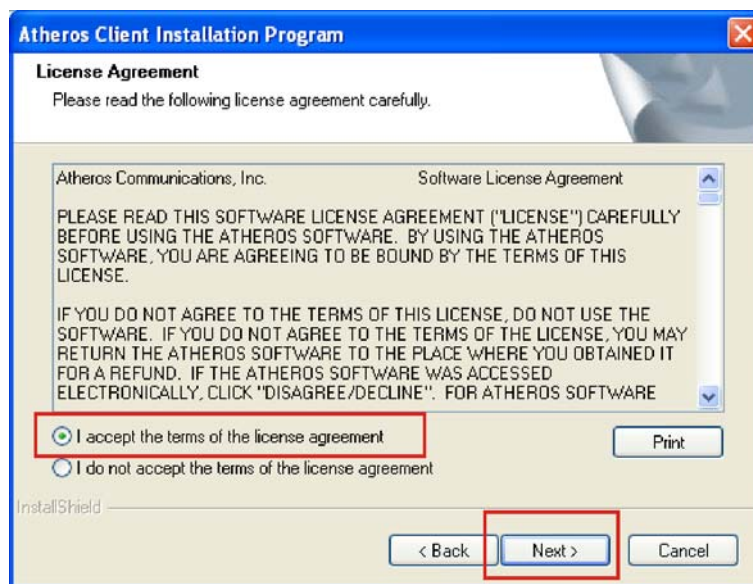

Figure 6-30: Wireless LAN Driver License Agreement
Step 6: The **Wireless LAN License Agreement** appears (Figure 6-30).
Step 7: Choose “I accept the terms of the license agreement,” and click **NEXT** to continue the installation (Figure 6-30).